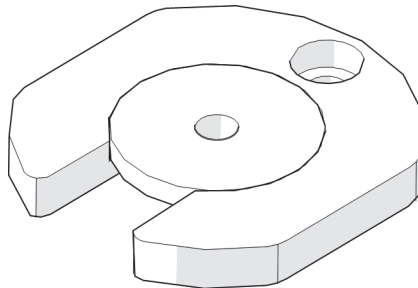

Figure 2-15 Wheel pulling tool with washer
17. Remove the washer from the center of the wheel pulling tool (see Figure 2-15 on page 93).